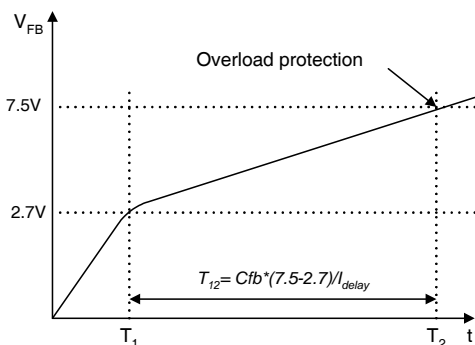

Figure 27. Overload protection
**3.2 Overload Protection (OLP):** When the load current exceeds a preset level for longer than the pre-determined time, protection circuit should be activated to protect the SMPS. Because of the pulse-by-pulse current limit capability, the maximum peak current through the SMPS is limited, and the maximum input power is restricted with a given input voltage. If the output consumes beyond this maximum power, the output voltage, together with primary side regulation voltage, decrease below the set voltage. This reduces the current through primary side regulation transistor, which increases feedback voltage (Vfb). If Vfb exceeds 2.7V, D1 is blocked and the 2μA current source starts to charge Cfb slowly, compared to when the 0.9mA current source charges Cfb. In this condition, Vfb continues increasing until it reaches 7.5V and the switching operation is terminated at that time, as shown in Figure 27. The delay time for shutdown is the time required to charge Cfb from 2.7V to 7.5V with 2μA.